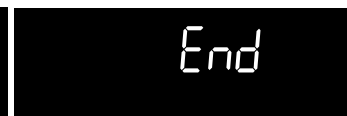

Fig. 2
1. "**End**" will appear in the display window and the oven will shut-off automatically (See Fig. 2).